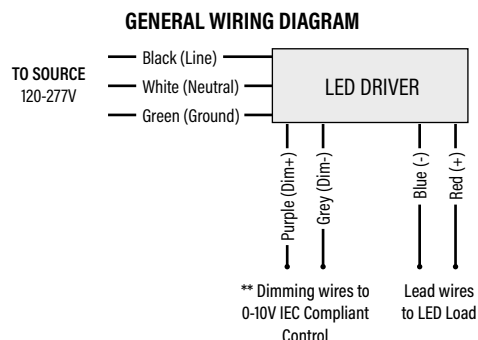

Fig. 1
1. Secure the provided brackets onto the ceiling by using the provided accessories and screws. (Fig. 1)